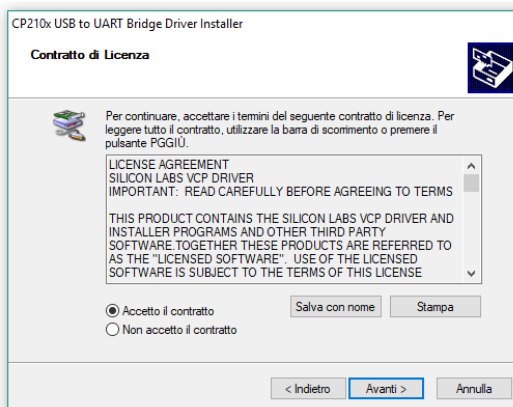

Fig. 2.2-6 License
- Accept the License with the chek-box (Fig.2.2-6) and then click **Next**;